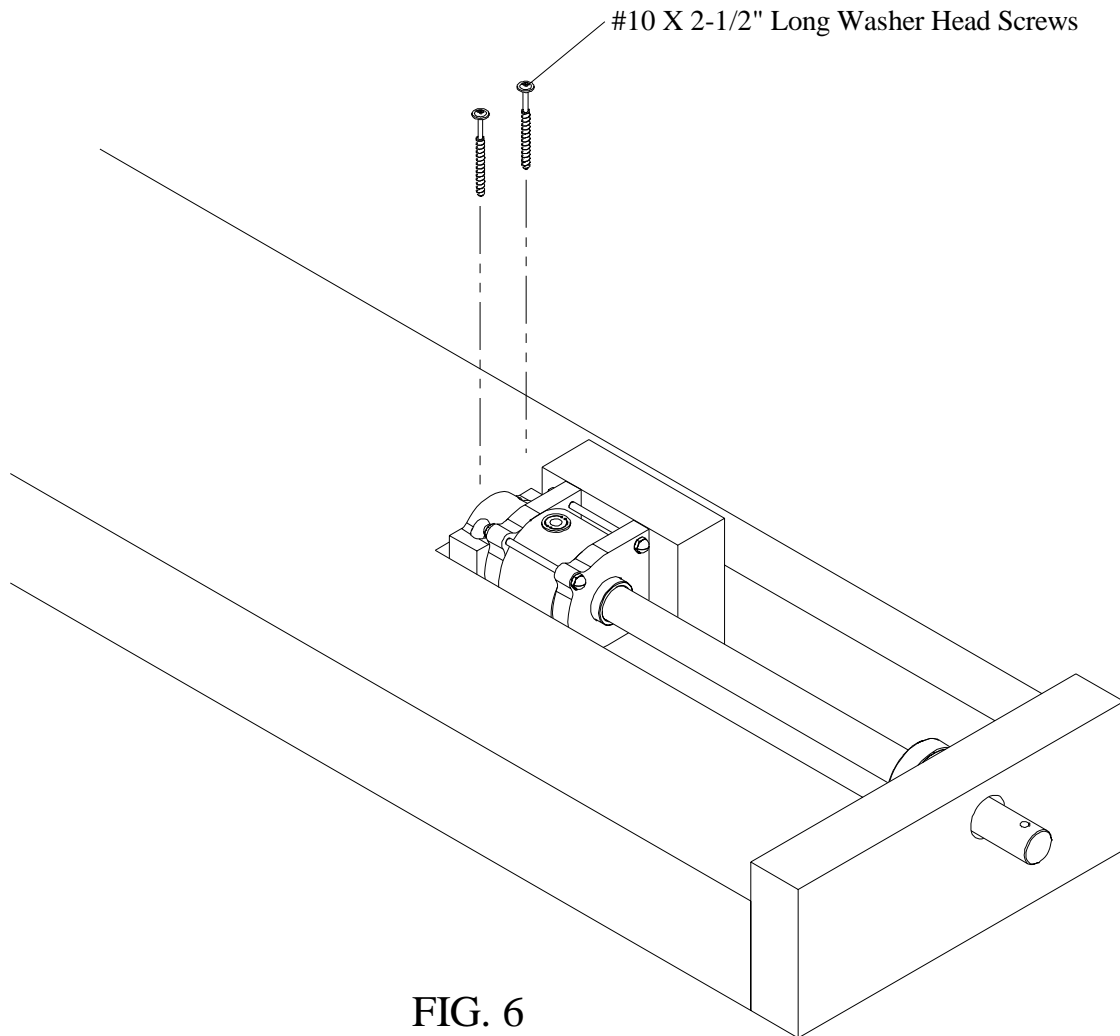

FIG. 6
Step 3: Position the dog block to the end of the slot as shown in Fig. 6. The shaft should protrude out from the end cap by approximately 2". The back end of the clamp shaft should extend fully into the rear Delrin bearing block with the hand wheel or handle installed. In some cases if you have a shorter slot the clamp shaft will extend through the rear bearing block. Center the dog block in the slot and make sure it will move freely in the slot while holding the shaft in position (the clamp shaft must be rotated to the unclamped position). Re-position the dog block to the position shown and re-check that it is centered in the slot. Once you are satisfied everything is positioned properly mark the rear bearing block hole locations with a transfer punch. Move the assembly forward and drill two 9/64" diameter holes 7/8" deep. Fasten the bracket securely to the bottom of the bench top with two #10 X 2-1/2" washer head screws.